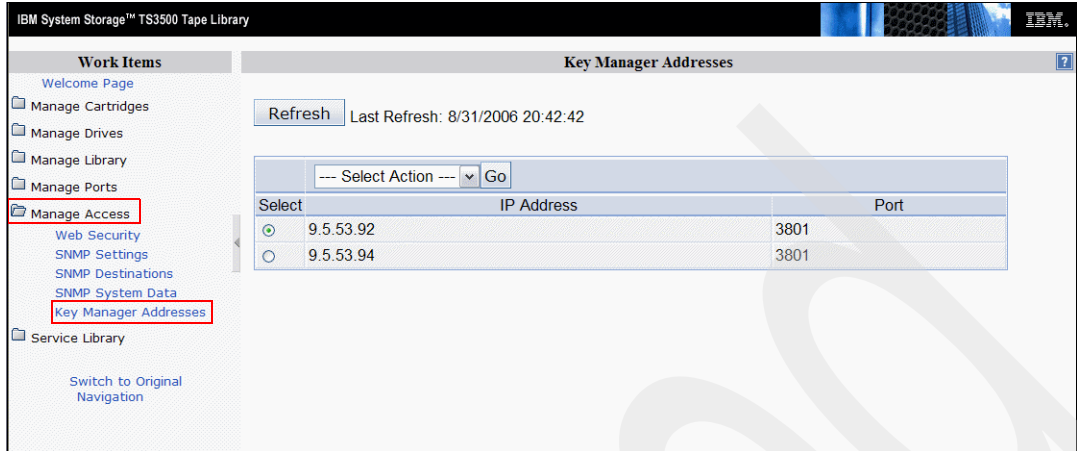

Figure 6-68 Key Manager Addresses
- In the left panel of the tape library Web interface, select **Manage Access** → **Key Manager Addresses**, as shown in Figure 6-68.